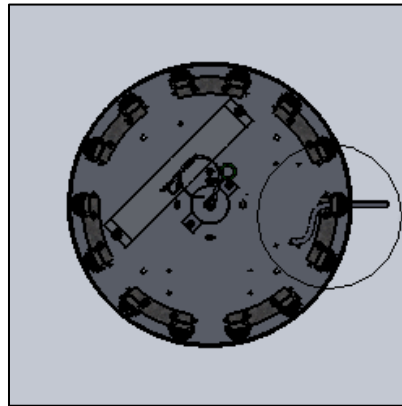
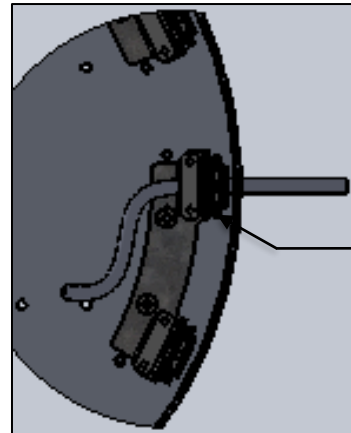

FIG. 14 -BOTTOM VIEW SHOWING CORD
FIG. 15 -DETAIL SHOWING STRAIN
5. Clamp the STRAIN RELIEF onto the CORD at the mark that was previously made as shown below in FIG. 14 and FIG. 15.